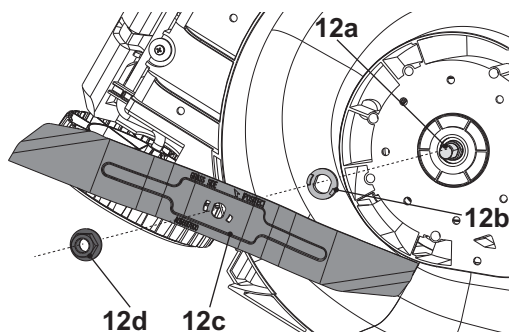

Fig. 17
1. Keep the underbody and cutting blade (12c) clean and free of debris. Remove clippings from the rear discharge chute (18).
4. Loosen the hex nut (12d) anti-clockwise using a suitable wrench (Size 17 mm) and remove it together with the cutting blade (12c) (Fig. 17).